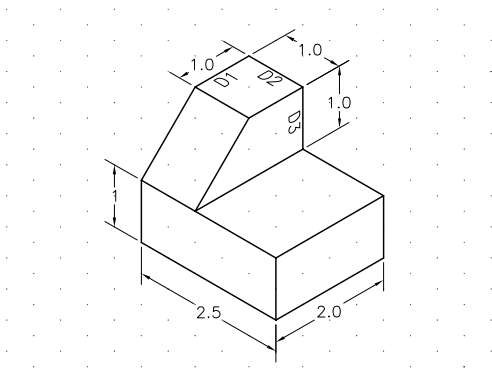
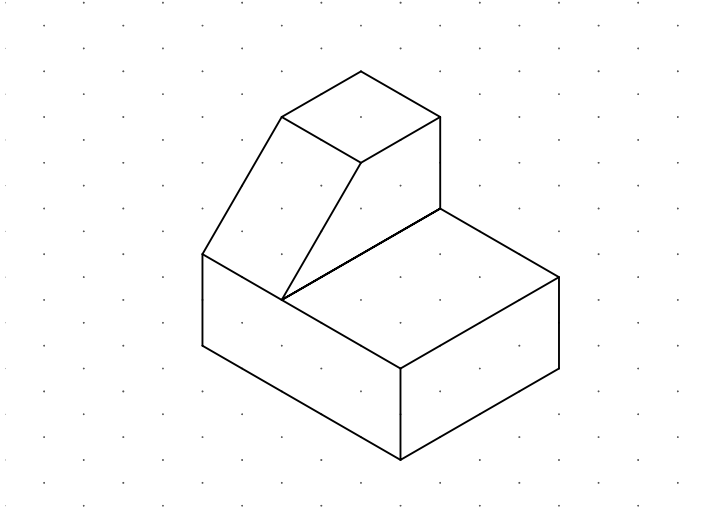

Figure 24-8 Isometric drawing for Example 1
Figure 24-13 Isometric drawing with the tapered face
In this example, you will create the isometric drawing shown in Figure 24-8.
6. The front left end of the object is tapered at an angle. In isometric drawings, oblique surfaces (surfaces at an angle to the isometric axis) cannot be drawn like other lines. Make sure that the Endpoint Object Snap is on, and then locate the endpoints of the lines that define the oblique surface. Next, draw the lines between those points. To complete the drawing shown in Figure 24-8, draw a line from P10 to P8 and from P11 to P4, refer to Figure 24-13.